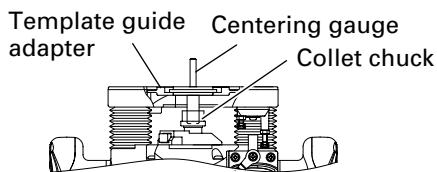

Fig. 10
- ② Insert the centering gauge through the hole in the template guide adapter and into the collet chuck. (Fig. 10)
- ③ Tighten the collet chuck by hand.
- ④ Tighten the template guide adapter screws, and pull out the centering gauge.
(2) Template guide